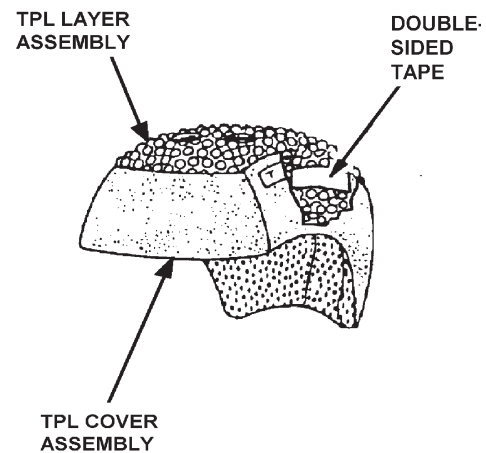

Figure 3-23. TPL Assembly
5. Referring to Figure 3-23, install new double-sided tape on the layer assembly.